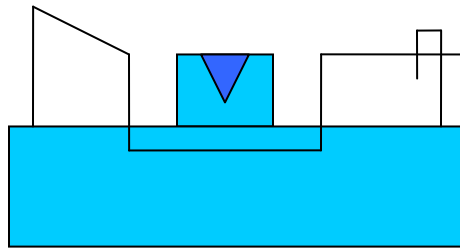

Fig. 4.2 – Programming Pin (CON30) Engaged
4. Engage the programming pin, located just below the right hand antenna, labeled as CON30 (*See Fig. 4.2*).